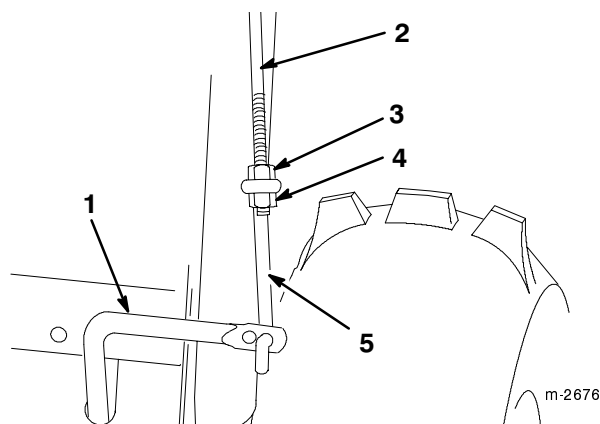

Figure 9
1. Thread a flange nut (flange side down) onto the upper control rod located on the right handle (Fig. 9).
2. Install the lower link through the outer hole in the lower control rod (Fig. 9).
3. Insert the upper control rod through the loop in the lower link control rod (Fig. 9).
4. Thread a flange locknut (flange side up) onto the bottom of the upper control rod below the loop in the lower link (Fig. 9).
7. Adjust the two nuts, if necessary, to obtain this dimension, then tighten the nuts securely (Fig. 9).